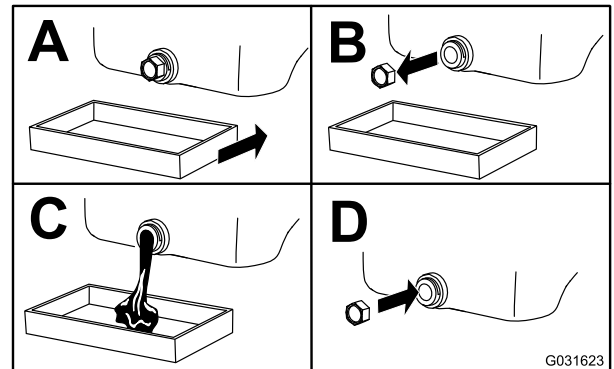

Figure 16
4. Change the oil as shown in (Figure 16).